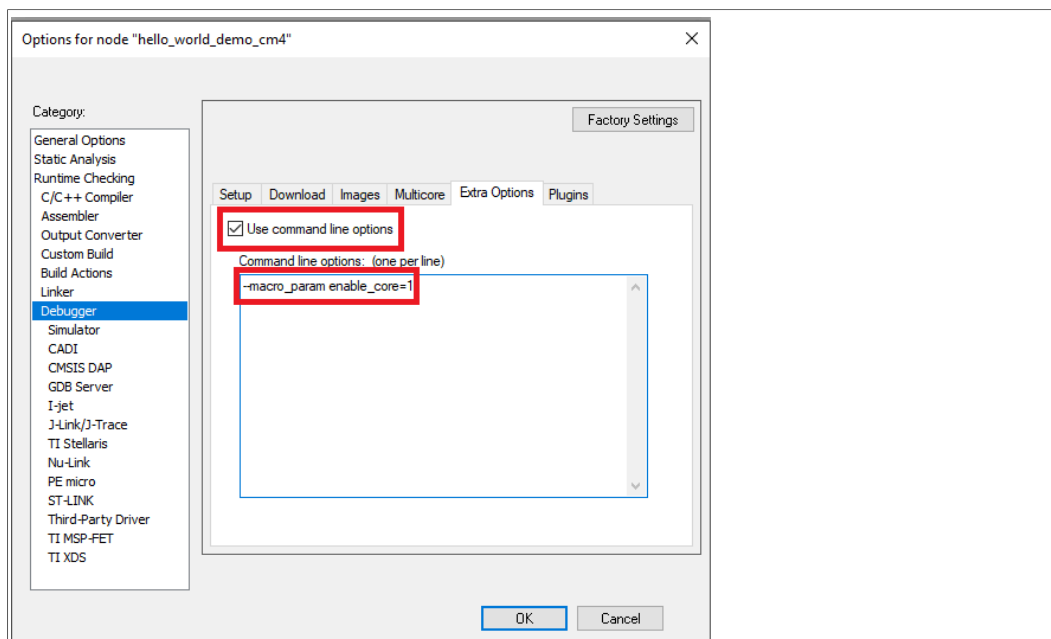

Figure 26. Selecting Command line options
- When using CMSIS-DAP to debug cm4 project on IAR, an extra option need to be specified in debugger settings. Check and fill in `--macro_param enable_core=1` in **Debugger -> Extra Options -> Command line options**, as shown in Figure 26.